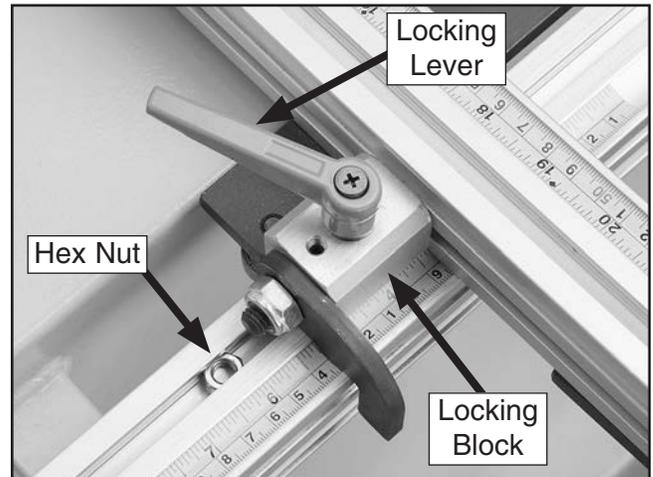

Figure 10. Longitudinal and cross fence attachment components.
2. Thread the locking lever of the longitudinal fence into the hex nut that is located in the cross fence slot (see **Figure 10**).